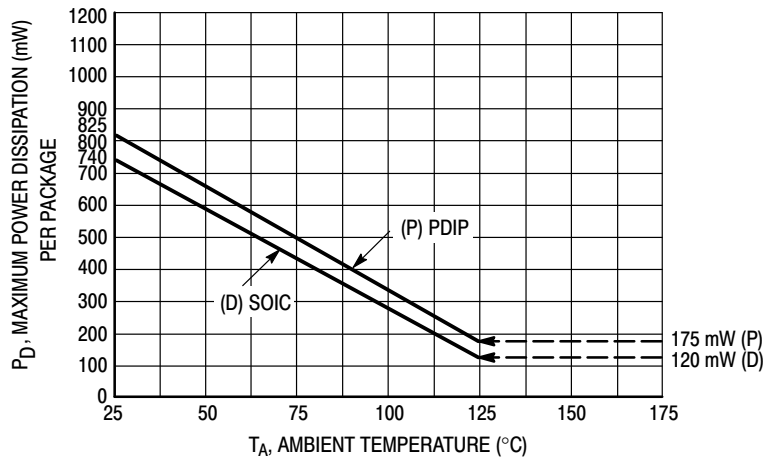

Figure 3. Ambient Temperature Power Derating
1. Temperature Derating: See Figure 3.